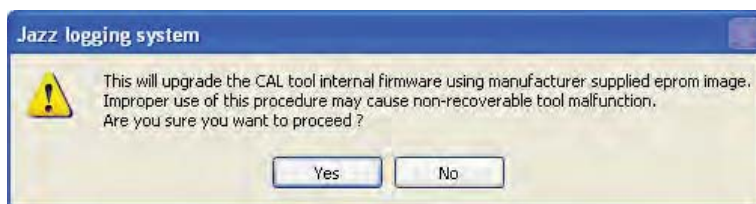

Figure 6-5 Warning Message during firmware upload
5. Once the upgrade has been successfully completed (Figure 6-5), click on **OK** to turn off the tool.